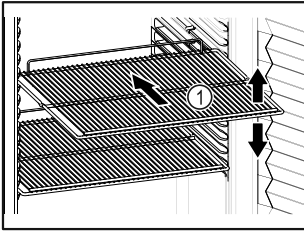

Fig. 10 Example illustration
- If there are adjustable shelves Fig. 10 (1), position them as required.